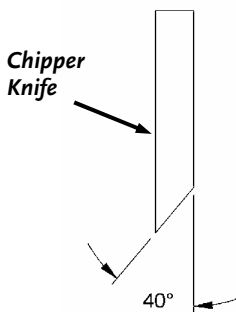

Figure 44
- It is extremely important to consistently maintain the 40-degree angle for proper performance (**Figure 44**).